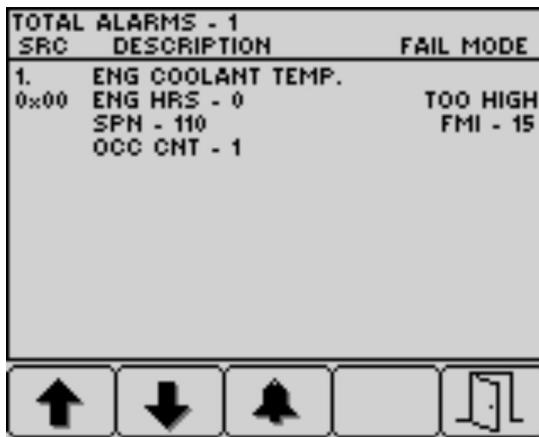

Figure 39
4. Press button 5 to exit the active fault list and return to the home screen (Figure 39).
- Press button 5 to exit the active fault list and return to the home screen; refer to Figure 39 in Engine Advisories Messages \(page 35\).